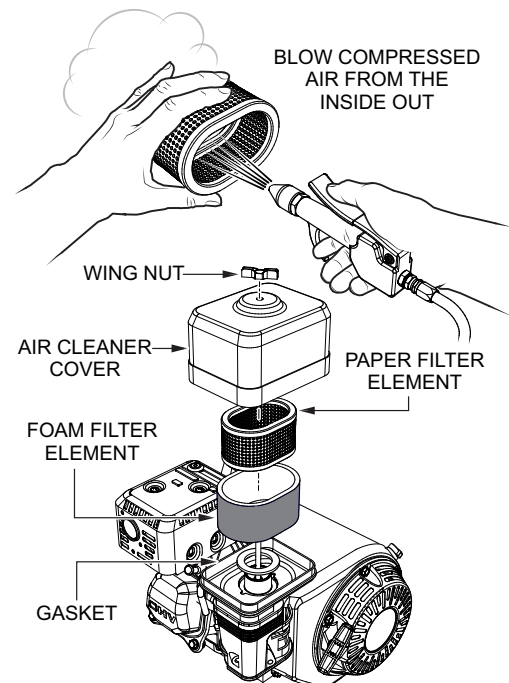

Figure 29. Cleaning Paper Filter
2. Next, remove the foam and paper filter elements as shown in Figure 29.
3. Tap the paper filter element (Figure 29) several times on a hard surface to remove dirt, or blow compressed air [not exceeding 30 psi (207 kPa, 2.1 kgf/cm²)] through the filter element from the air cleaner case side. **NEVER** brush off dirt. Brushing will force dirt into the fibers. Replace the paper filter element if it is excessively dirty.